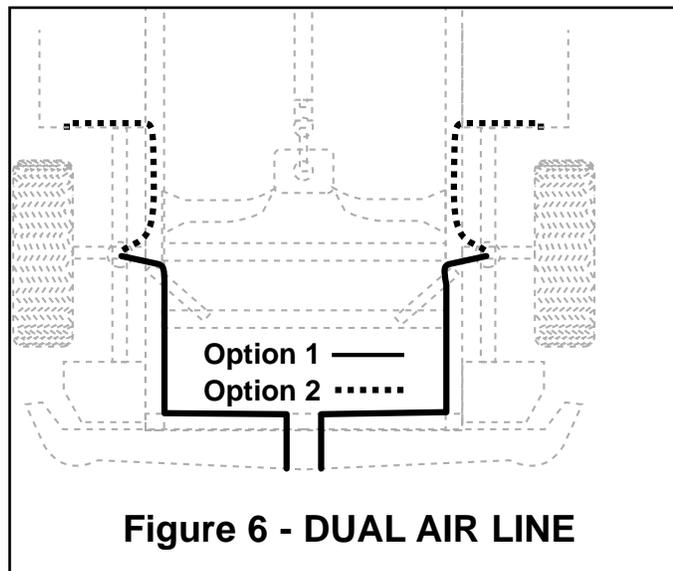

Figure 6 - DUAL AIR LINE
- A. Select a location for the inflation valves in the rocker panel flange, or rear bumper, assuring that each valve will be protected and accessible with an air hose (Figure 6).